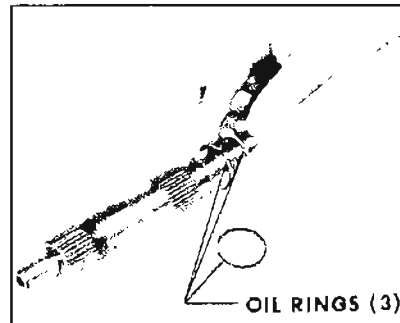

Figure 5-129
2. Examine input shaft oil rings. If nicked or worn, remove rings. See Figure 5-129.